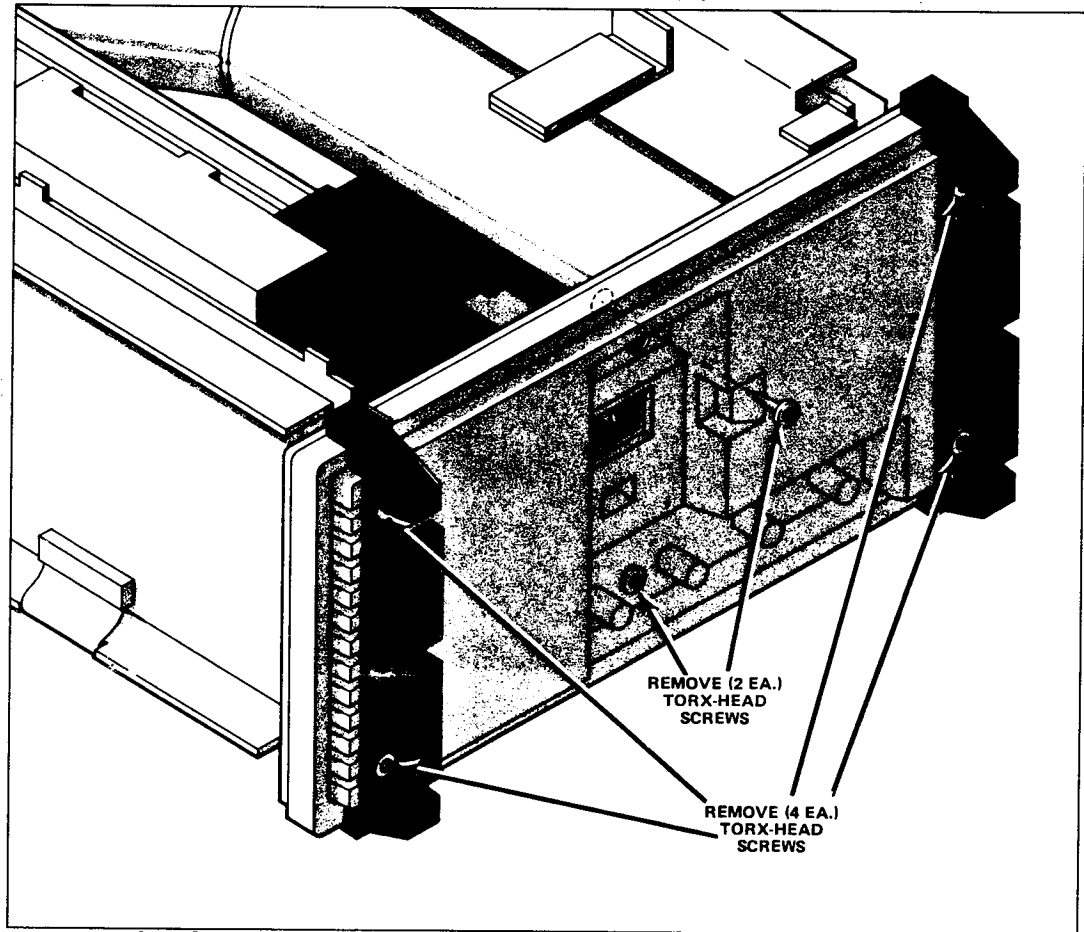

Fig. 1 - Rear Panel Removal
- () d. Remove the four screws in the rear panel feet. (See to Fig. 1)